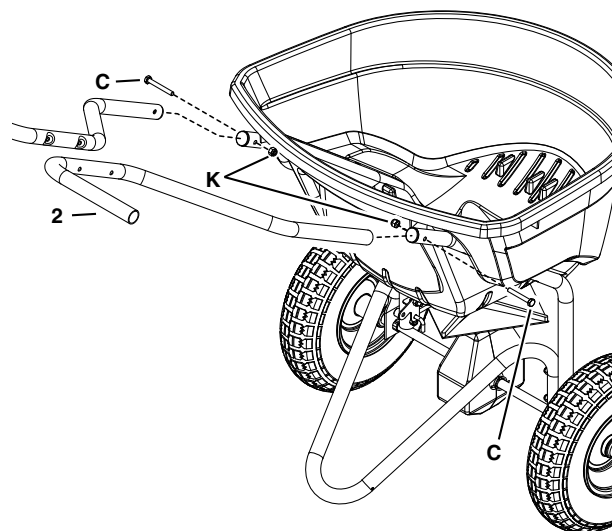

Figure 11
STEP 11: (SEE FIGURE 11)
- Attach the handle tubes (2) to the hopper support tubes using two 1/4" x 1-3/4" hex bolts (C), and 1/4" nylock nuts (K). **Tighten.**